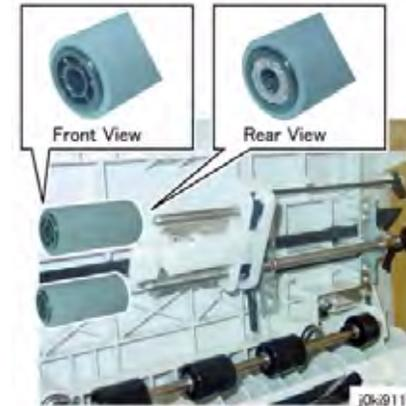

Figure 5 Nudger/Feed Roll Alignment
2. Install the Nudger/Feed Roll while aligning them as shown in the figure. (Figure 5)